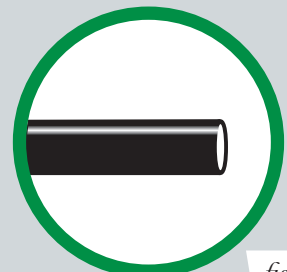

fig. 18
When cutting air lines, use a sharp knife or a hose cutter and make clean, square cuts (Fig. 18). Do not use scissors or wire cutters because these tools may deform the air line, causing it to leak around fittings. Do not cut the lines at an angle.
- a. Check the air line connection by deflating the spring and removing the line by pulling the collar against the fitting and pulling firmly on the air line. Trim 1" off the end of the air line. Be sure the cut is clean and square (see Fig. 18). Reinsert the air line into the push-to-connect fitting.